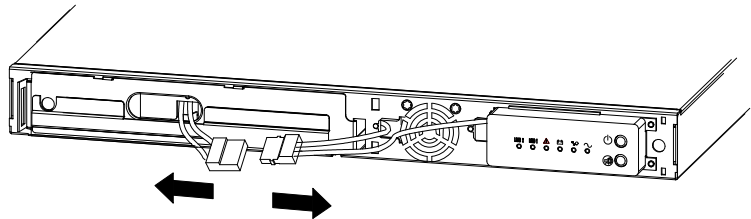

Figure 26. Disconnecting the Internal Battery Connector
2. Disconnect the internal battery connector (see Figure 26).